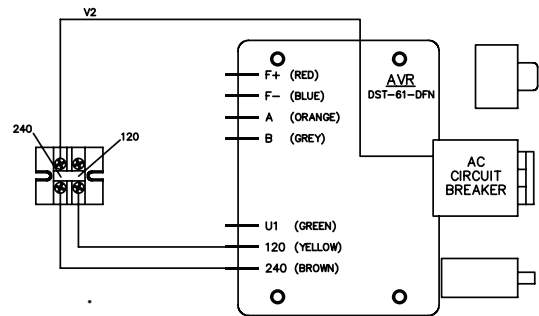

Figure 30: Control Terminal Board, 120/240 Volt Output
- a. Connect the control terminal board for 240 volts (Figure 30).